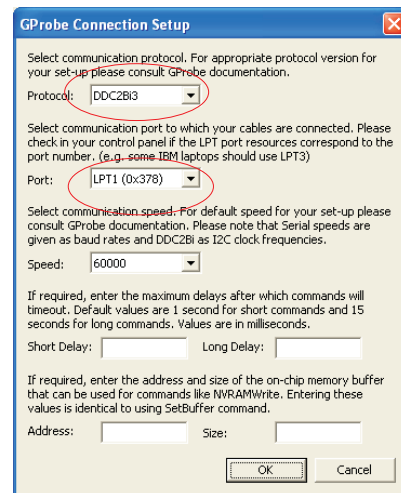

Fig.8
5. From the menu that appears , choose the DDC2Bi3 in "protocol" and the LPT (0x378) in "port" as shown in Fig.8